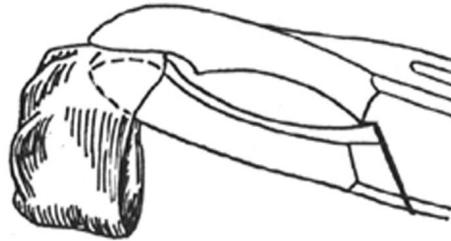

Figure 9 - Contouring the gingival third of the crown
3. Contouring the crown margins – Contour the gingival third of the crown with the contouring pliers. Place the ball portion of the pliers inside the crown. As the pliers are squeezed and opened repeatedly, it is moved around the margin in small, overlapping increments, contouring the margin inwards. See Figure 9.